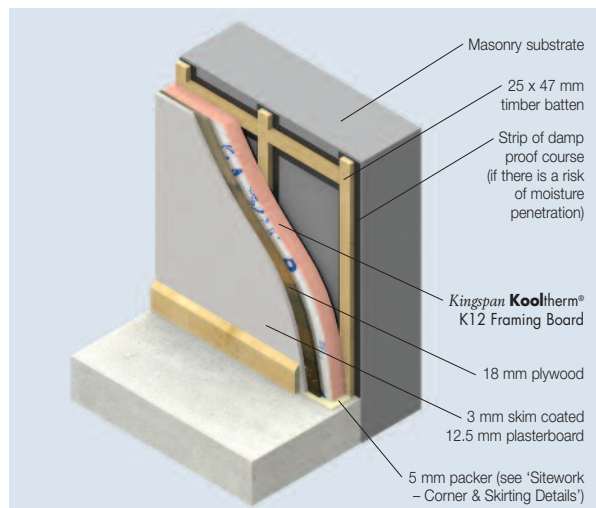

Figure 6
- Alternatively, where there are to be extensive heavy internal fittings, the construction outlined in Figure 6 can be adopted.